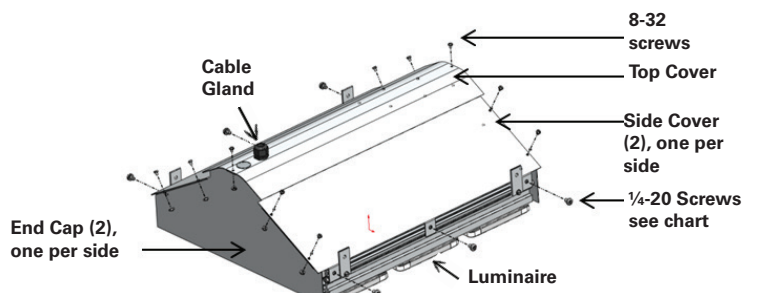
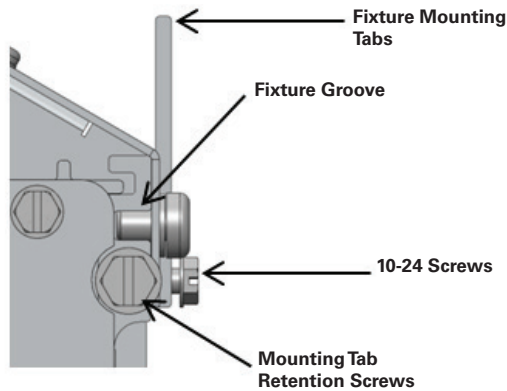

Figure 1
Figure 4
1. Install 1 side cover to the luminaire using the 1/4-20 screws provided with the dust cover, see figure 1. Screws will self-thread into the grooves on the sides of the luminaire, see figure 4. Tighten screw until flush with surface (25 in-lbs). The quantity of screws holding the cover to the luminaire varies depending on the Lumen configuration, see Chart 1.
- Mounting tabs are located 1" from each end of the luminaire from the factory, see figure 4. If mounting tabs need to be relocated or become loose then tighten the 10-24 screws to 21 in-lbs before hanging the luminaire. Mounting tab retention bolts should be tightened to 65 in-lbs in all four corners of the luminaire. Mounting tabs should be placed equal distance from the ends of the luminaire to assure the luminaire hangs level.
- Chains should be cut to equal lengths to assure the luminaire hangs level. Install (4) hooks and (4) chains to the luminaire. One hook and one chain per mounting bracket found at each corner of the luminaire. Mount the luminaire a minimum of 36 inches away from the ceiling.
- Mounting tabs are located 1" from each end of the luminaire from the factory. If mounting tabs need to be relocated or become loose then tighten the 10-24 screws to 21 in-lbs (see figure 4) before hanging the luminaire. Mounting tab retention bolts should be tightened to 65 in-lbs in all four corners of the luminaire. Mounting tabs should be placed equal distance from the ends of the luminaire to assure the luminaire hangs level.
- Install (2) aircraft cable assemblies to the luminaire with one aircraft cable assembly at each end of the luminaire, refer to IF1726 for more information. Do not exceed an angle greater than a 30° between the cables and the gravity line. Adjust the length of the aircraft cable